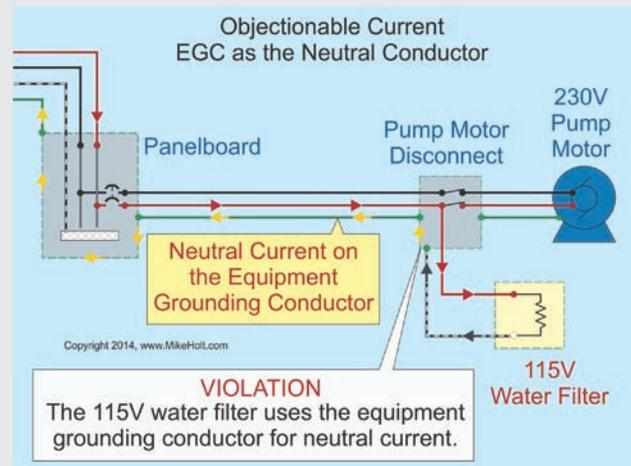

Figure 250–29
- The circuit equipment grounding conductor is used for neutral return current. Figure 250–30